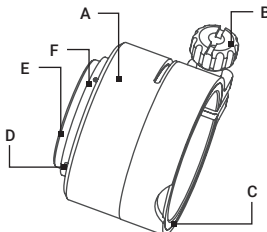

FIGURE 2-5. FRONT SCOPE MOUNT
Install the Comanche-22 on the lens of a day scope as follows (refer to Figure 2-5):
3. Using a screwdriver, remove the both M2×2.5 screws (F, see Figure 2-5) and then unscrew the ring (E).